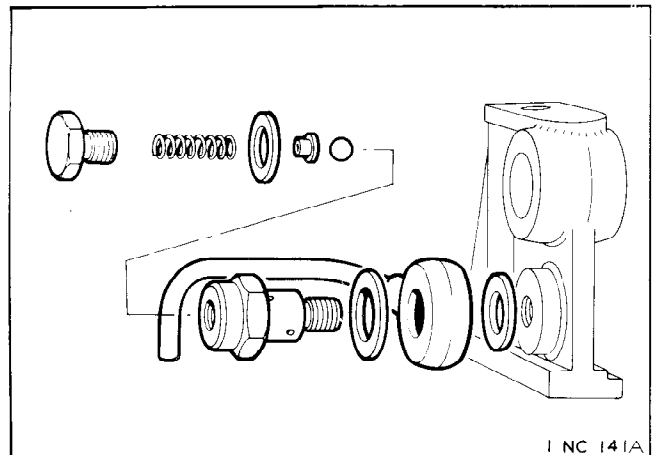

Fig. 1
3. Assemble the components in the order shown in Fig. 1, using a new tab washer and new copper washers.